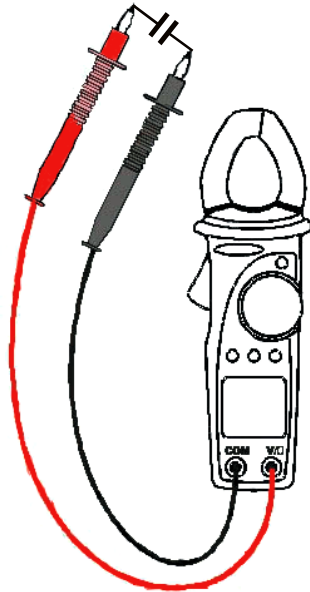

Fig. 9: use of clamp for continuity measure
2. Insert the test leads into the jacks. The red test lead plug into “+” jack, and the black test lead plug into COM jack, as shown in Fig.9.